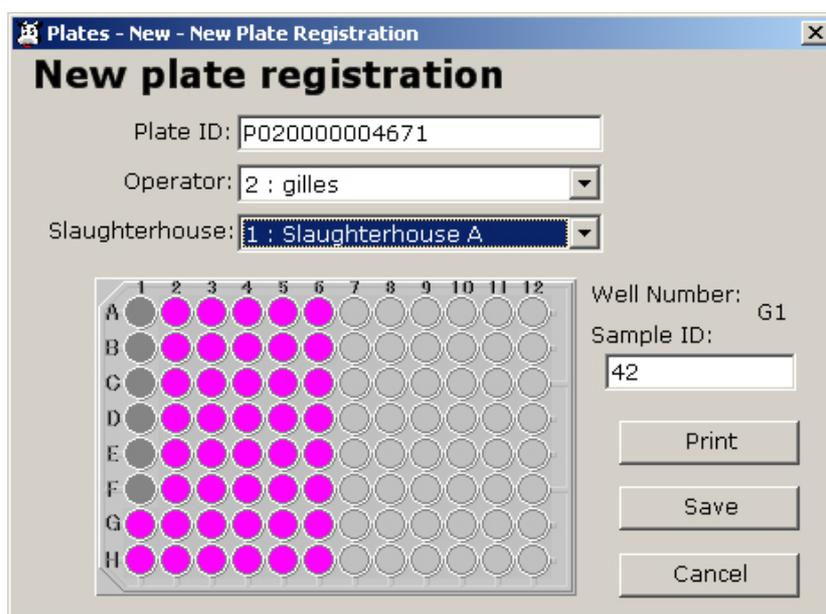

Fig 5.1.2-1 : Sample entry
- (7) To continue editing samples with the automatic increment entry mode, click on the intended well, and, while holding simultaneously the mouse’s left button down and control (Ctrl) key, drag the mouse up to the last sample position. The highlighted area will automatically be incremented and registered one by one starting from the first sample ID input (Fig. 5.1.2-1).